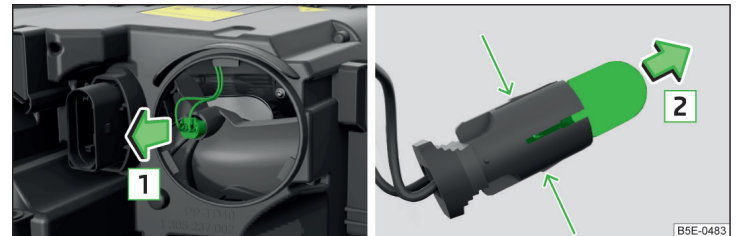

Fig. 227 Headlights with Xenon light: Bulb for additional parking light
- Remove the bulb holder with the bulb by jiggling it out in the direction of the arrow **1** » Fig. 227.